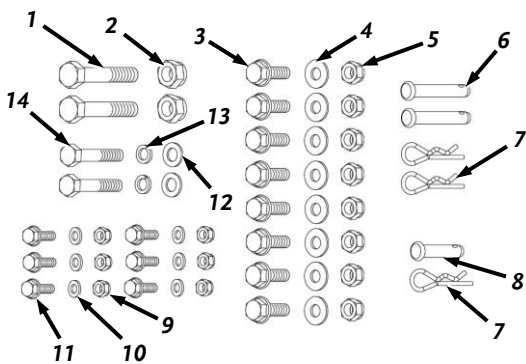

Figure 4
- 14 Hardware Kit (Figure 4 and list below)
Parts Supplied in Hardware Kit (Figure 4):